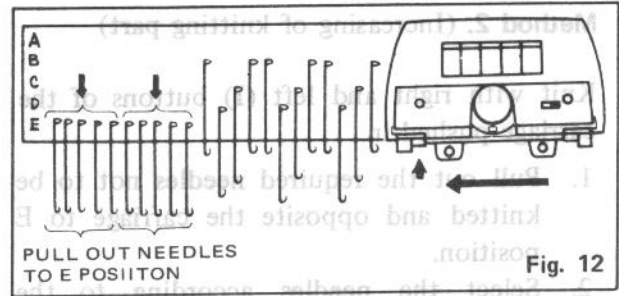

Fig. 12
4. Pull out to E position the required needles not to be knitted and the needles pushed back to C from E position as shown in Fig. 12.
5. Push again the (II) button released in the step (3).
- Repeat the above steps (2) – (5).